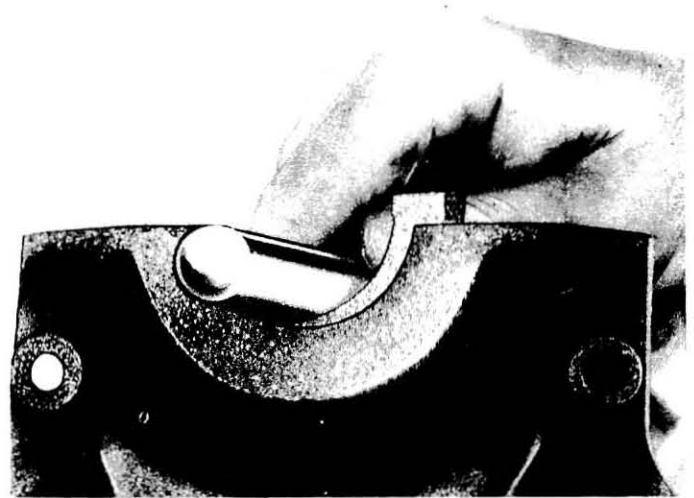

Fig. 14—Installing Oil Seal Packing
(4) **OIL SEAL REPLACEMENT.** Remove the oil packing and thoroughly clean the packing retainer grooves. Soak the packing (fig. 13) in SAE 20 oil for two hours before installation. Install the short packing in the front retainer groove and the long packing in the rear retainer groove. "Roll-in" the packing with a round bar (fig. 14) to make sure the packing meets the gasket evenly.